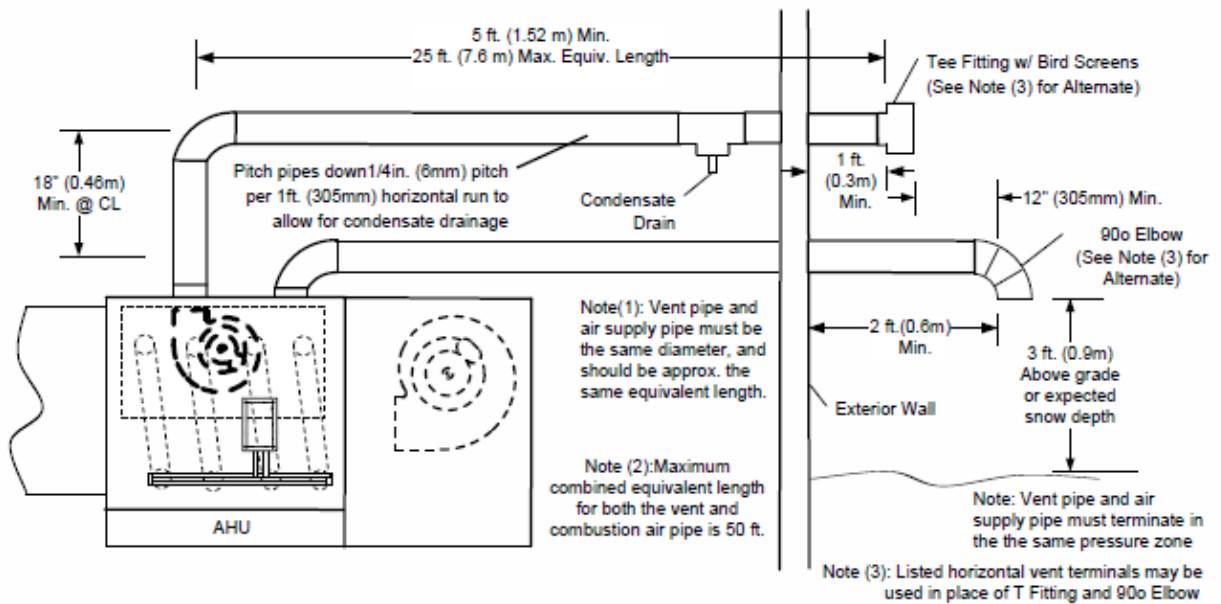
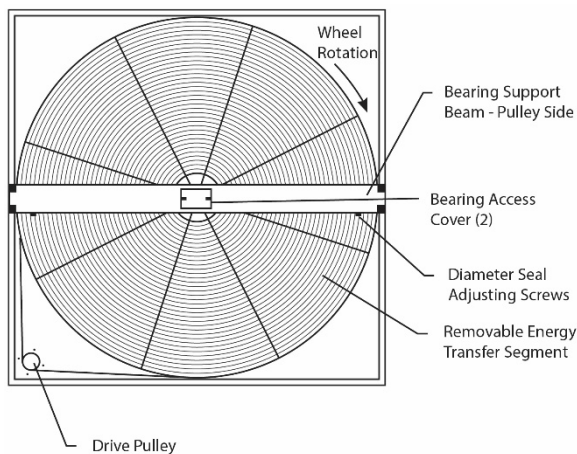

Figure 36 – Indoor Horizontal Venting Separated Combustion
Figure 37 - Energy Recovery Wheel
5. See Figure 36 and Figure 37 for recommend vent terminations and air inlet fittings for venting configuration. Proper installation of air inlet and flue gas exhaust piping are essential to proper operation of the heat module. NOTE: The inlet and outlet terminals must be located in the same pressure zone to provide for safe appliance operation.